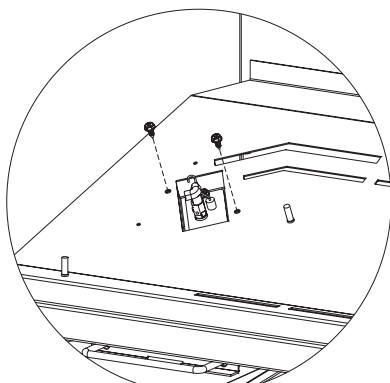

Figure 3
4. Remove (2) screws holding pilot assembly to burner pan. This will allow pilot assembly to drop (Figure 3).